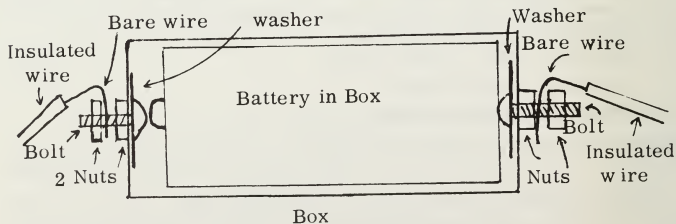

Figure 15
4. Battery Box. The battery box consists of a scored, glued piece of cardboard which will readily fold into a box of the right size to hold the battery. At each end of the box is a small hole. Through this hole from the inside of the box insert a bolt (on which a washer has been threaded, see Figure 15); then fasten the bolt